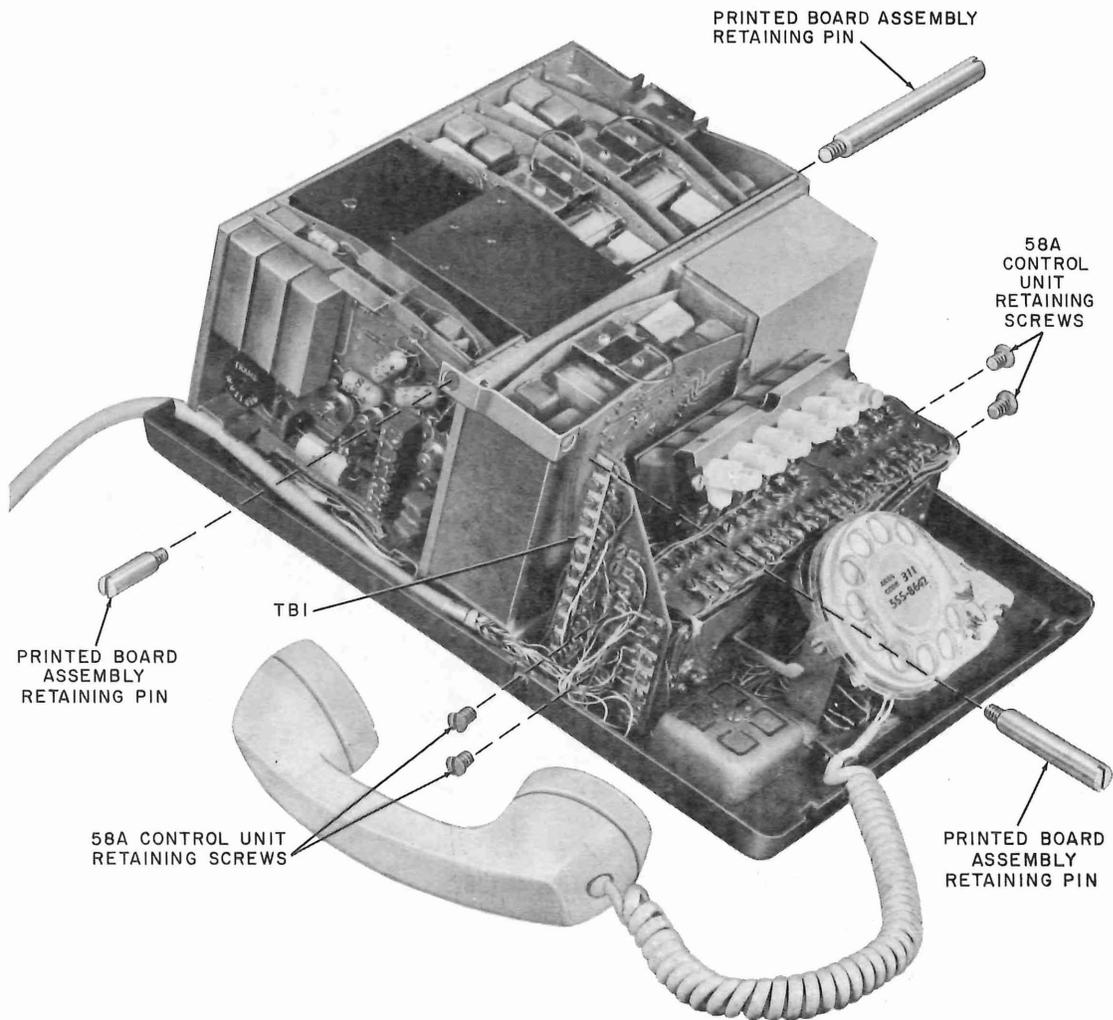

Fig. 10—Data Set J1D401J or 401J1—Inside View
4.01 Data sets equipped with retaining pins (Fig. 10) are replaced as follows.
- (1) Remove the dial.
- (2) Remove the unit retaining screws (Fig. 10 and 13).